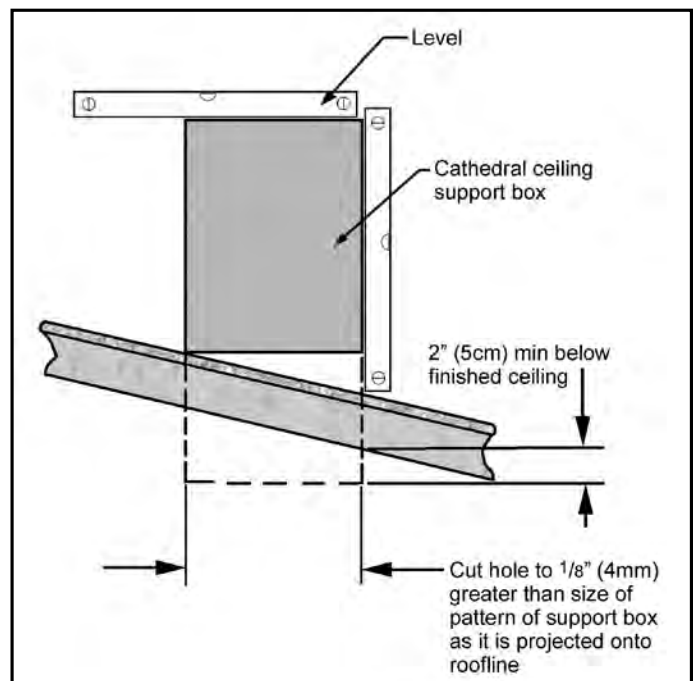

Figure 41: Cathedral Ceiling Support Box Leveling.
4. Lower the "Support Box" through the hole in the roof until the bottom of the "Support Box" protrudes at least 2 inches (5 cm) below the ceiling. Align the "Support Box" both vertically and horizontally with a level as shown in Figure 41. Temporarily tack the "Support Box" in the place through the inside walls and into the roof sheathing.